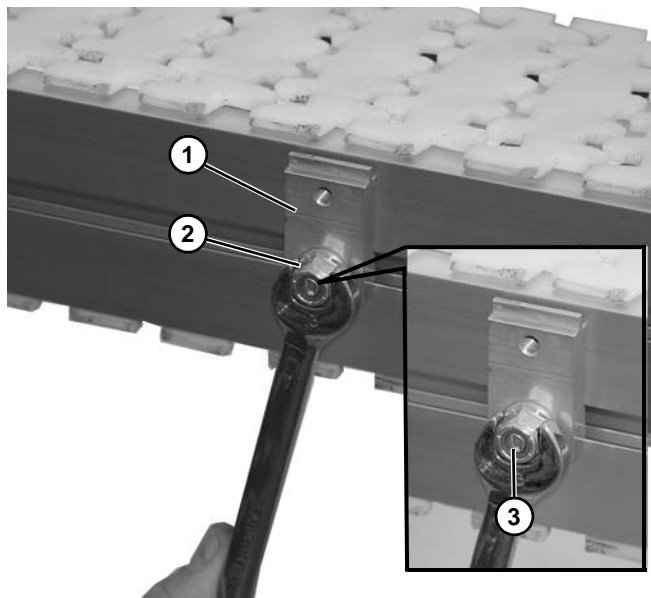

Figure 75
3. Fasten retaining clip (Figure 75, item 1) to conveyor with nut (Figure 75, item 2) on stud.
Be certain that slot (Figure 75, item 3) is close to vertical when finished tightening nut.
4. Tighten nuts (Figure 75, item 2).